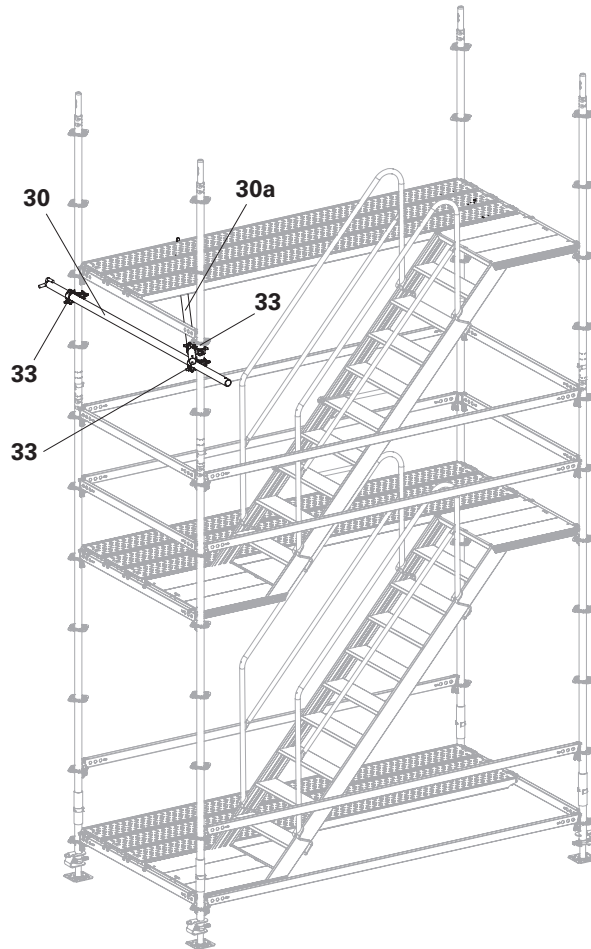

Fig. A4.05
3. Fix Wall Ties to the wall, e.g. with eyebolts and dowels, or equivalent connection. (Fig. A4.05)